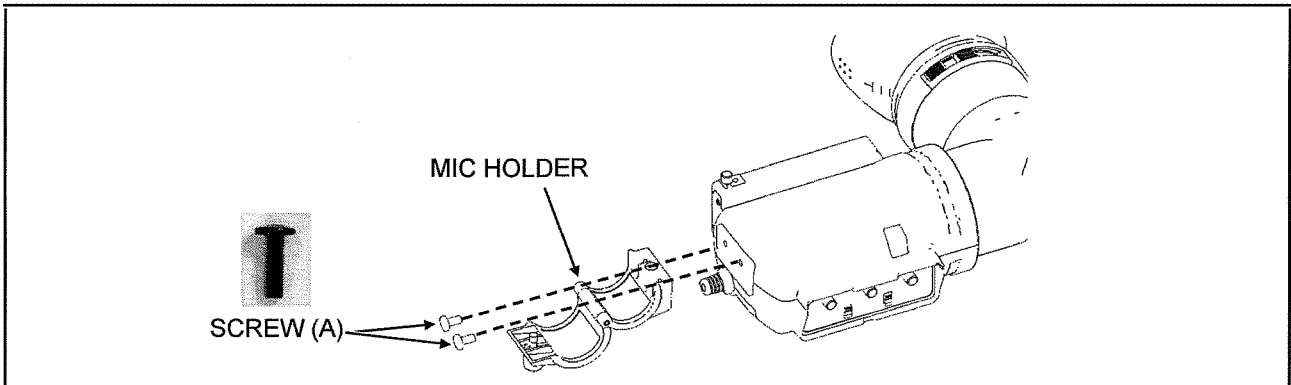

Figure 11-1
2. Unscrew the 2 screws (A) as shown in figure 11-1 and remove the MIC HOLDER.